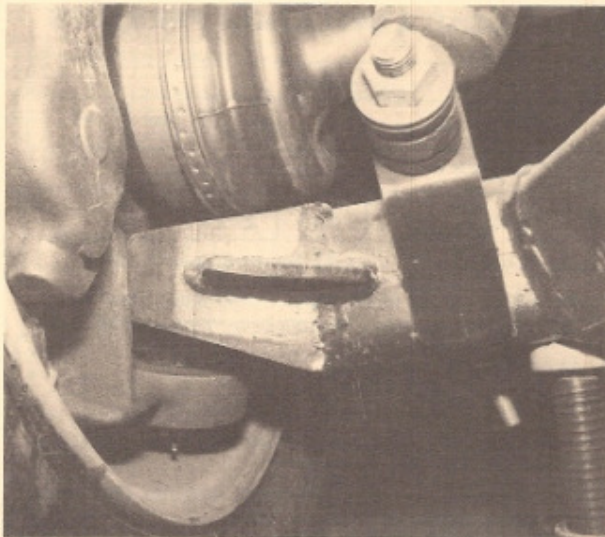

Figure 129 — Jack Location for Wheel Balancing
1. With a 5-ton minimum floor jack, raise the wheel/drive line of the tire to be tested as follows: Place the jack pad as far outboard as possible under the lower "A" arm (see figure 129). Raise "A" arm so that the tire clears the ground and the half-shaft is nearly parallel with the ground.*